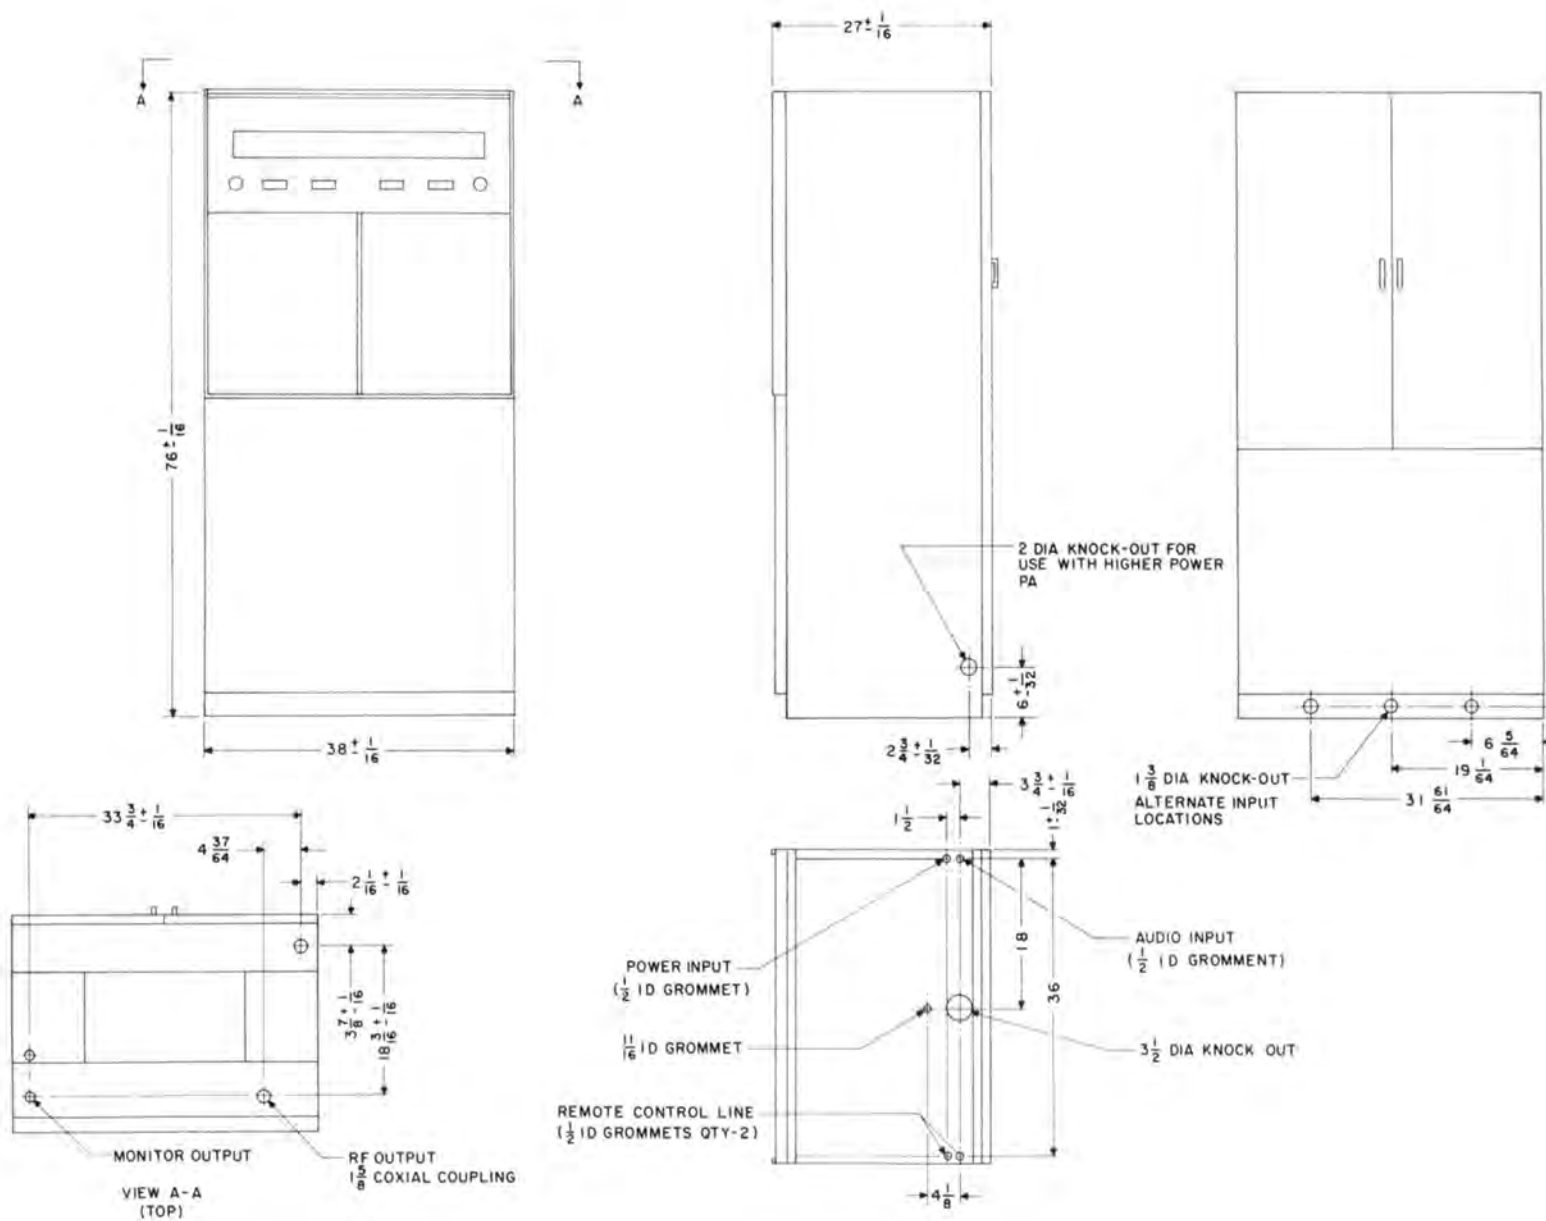

Figure 2-1. 830D-1A 1000 Watt FM Broadcast Transmitter, Outline and Installation Drawing
Plan transmitter and wiring placement carefully before starting installation work. Refer to figure 2-1, the transmitter installation diagram. This diagram shows the location of all wiring openings in the transmitter cabinet. As will be noted, several alternate wiring arrangements can be used. Select the combination that most nearly meets the station requirements.
Refer to figure 2-1 for assistance in making the following external connections.
- b. Connect the FM monitor to the monitor output on the top of the cabinet. Refer to figure 2-1. Use type RG-58U coaxial cable to make this connection.